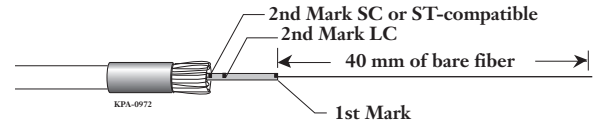

Figure 30 — Remove 900 micron Coating
Step 8: Remove approximately 40 mm of buffer and coating to the first mark using the Dual-Hole Buffer Stripper. Use the large V-notch to remove the 900 micron buffer in two 20 mm increments and the small V-notch to strip the coating (Figure 30).